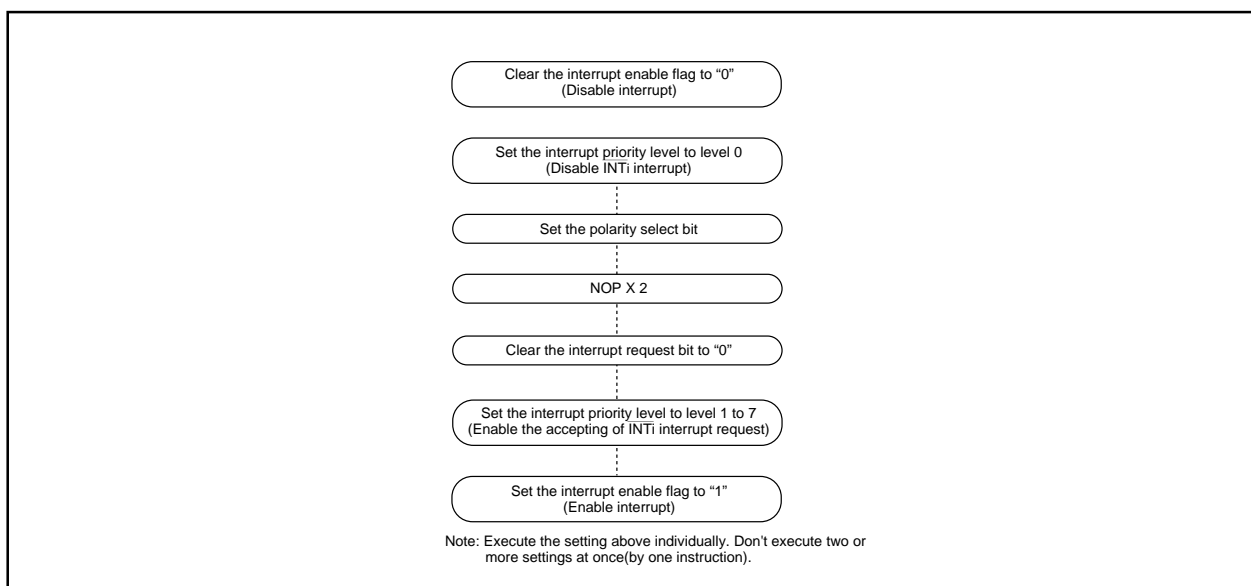

Figure 1.1.1. Switching condition of INT interrupt request
2. When the polarity of the $\overline{\text{INT0}}$ to $\overline{\text{INT2}}$ pins is changed, the interrupt request bit is sometimes set to "1". After these changes were made, set the interrupt request bit to "0". Figure 1.1.1 shows the procedure for changing the $\overline{\text{INT}}$ interrupt generate factor.